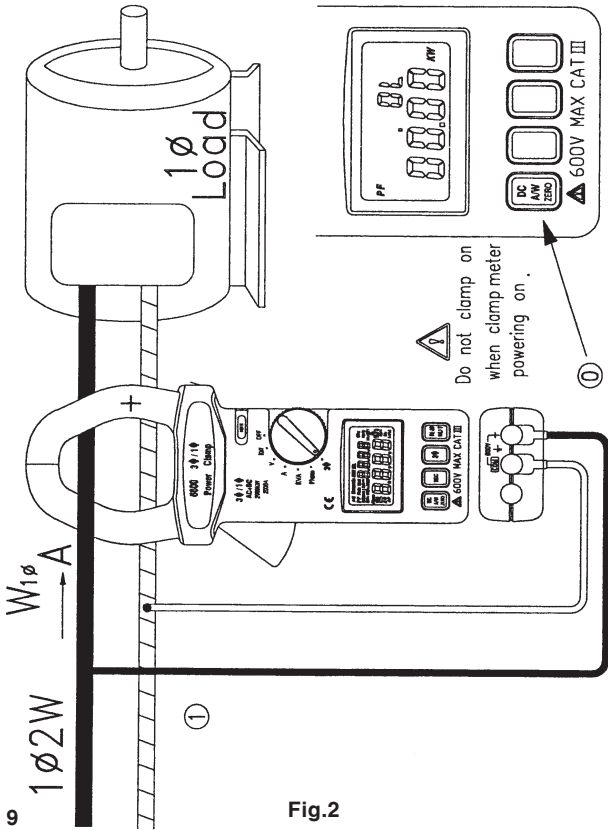

Fig.2
- 3.1.2. Set the rotary switch at W (refer to figure 2).
Before any measurement, zero the current (A) reading. Then set the rotary switch at KVA. The rest of the procedures are the same as section 3.1 (AC+DC 1F2W Power (W) and Power Factor (PF) measurement). Refer to figure 2 for test leads connection and clamping of jaw.